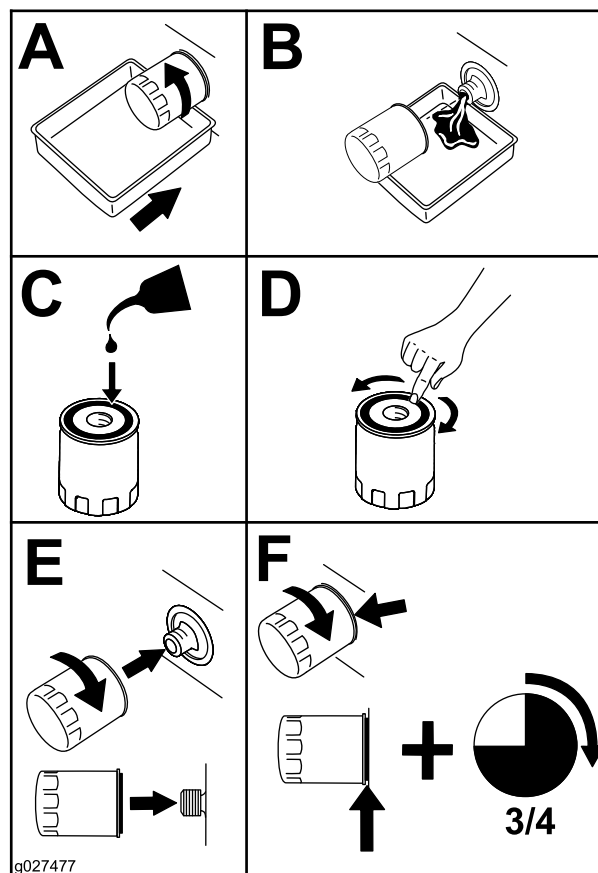

Figure 36
- Change the engine oil filter (Figure 36).